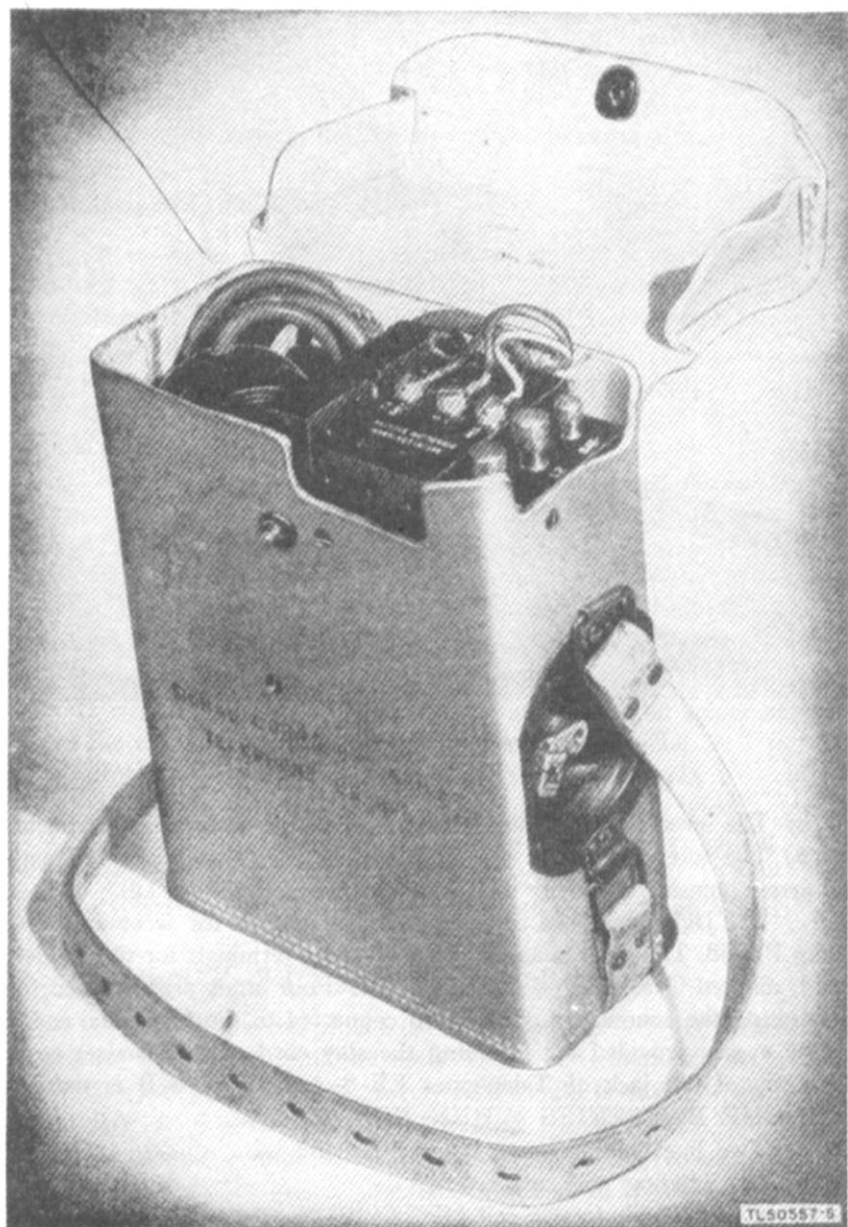

Figure 2. Telephone EE-8-B with leather case.
*b. CASE.* The case containing Telephone EE-8-(\*) is made of leather or canvas and has an adjustable carrying strap. (See figs. 2 and 3.) The cover is hinged at the back, overlaps the sides and front, and fastens in front with a snap fastener. The space within the case not occupied by the body is used for storing the handset.